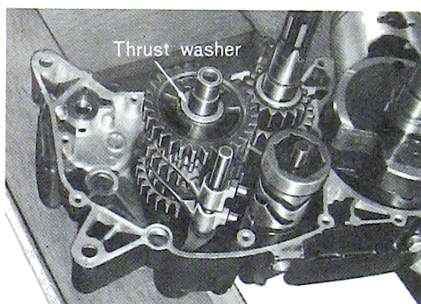

Fig. 5-3-4 Inserting shifting fork into the fourth and top driven gear
- 4) Insert the shifting fork shaft into the drive shaft side shifting fork (for fourth and top driven gears) and set it to the left crankcase. (Fig 5-3-4)